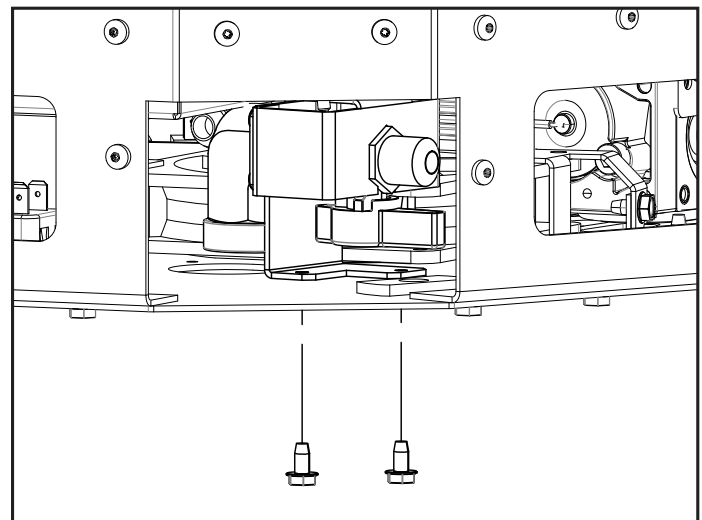

Figure 90: Gas Connection Re-installation
5. Work the flex line and get the gas connection assembly into position as shown in Figure 90. Attach the assembly to the firebox using two (2) 5/16" hex head bolts from below.